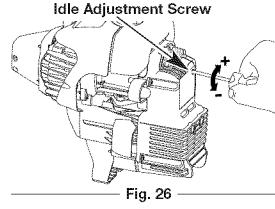

Fig. 26
The idle speed of the engine is adjustable. An idle adjustment screw is between the air filter cover and the engine starter housing (Fig. 26).
2. Release the throttle trigger and let the engine idle. If the engine stops, insert a small phillips screwdriver into the idle adjustment screw (Fig. 26). Turn the idle speed screw **clockwise** 1/8 of a turn at a time (as needed) until the engine idles smoothly.